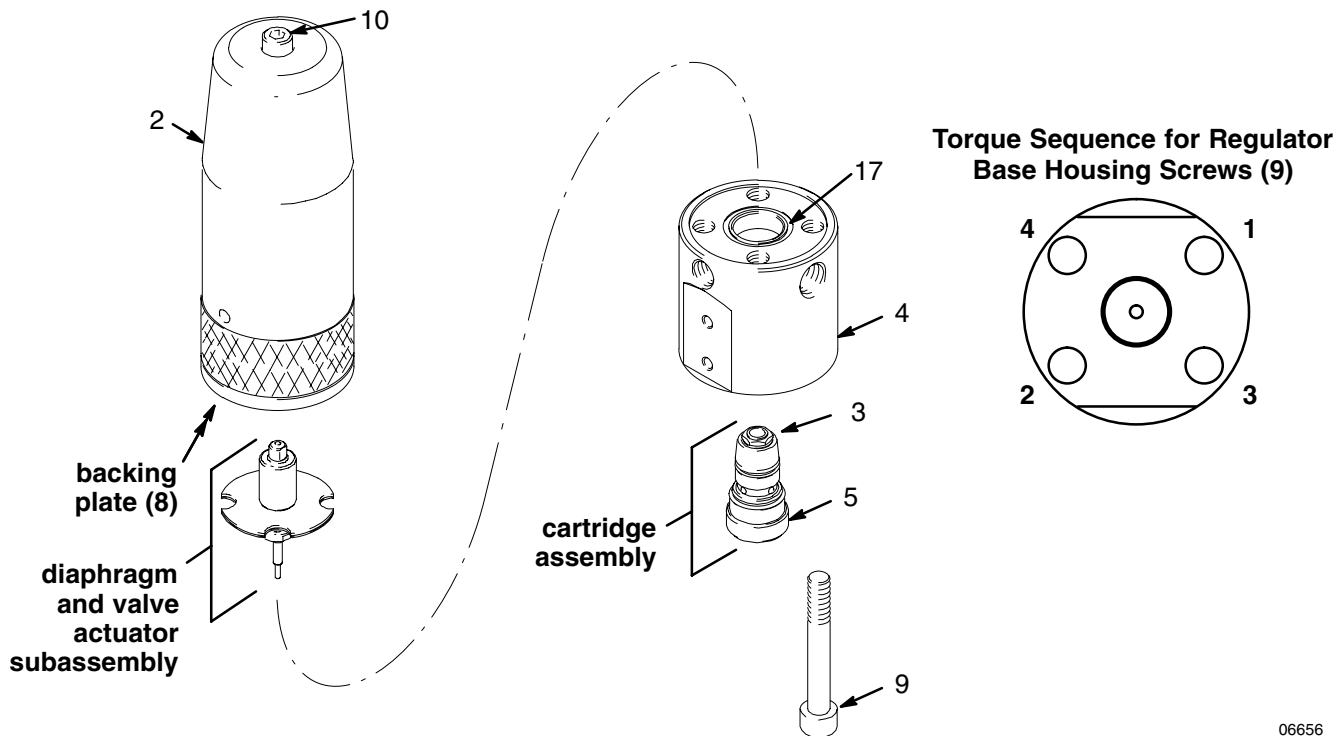

Fig. 3
See Fig. 3, and follow the steps below. For parts that are not called out in Fig. 3, see the **Parts Drawing** on page 14.
10. Align the holes in the diaphragms with the backing plate (8).
11. Install the backing plate/diaphragms assembly over the base housing (4). Hold the backing plate (8) tightly against the base housing, and install the four base housing screws (9).
12. Torque the base housing screws (9) first to 20 to 25 ft-lb (27 to 34 N•m), then to 30 to 35 ft-lb (41 to 48 N•m) in the sequence shown in Fig. 3.